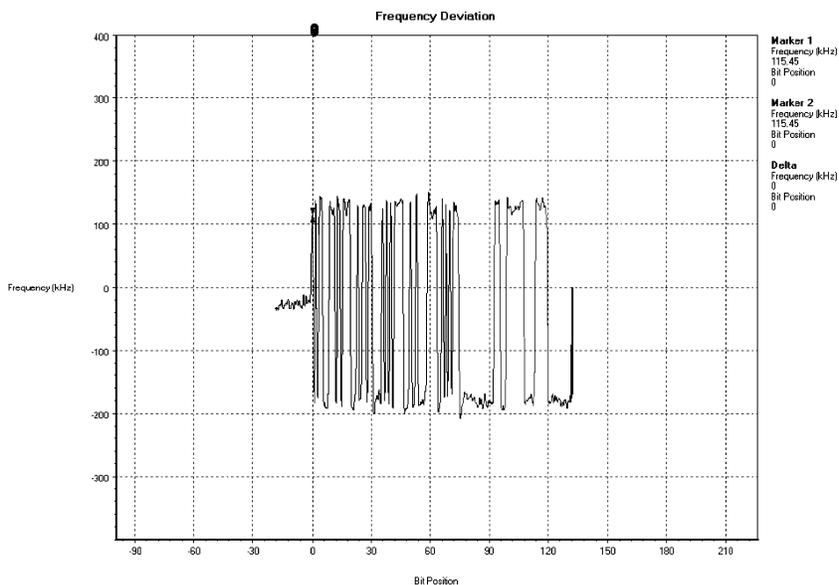
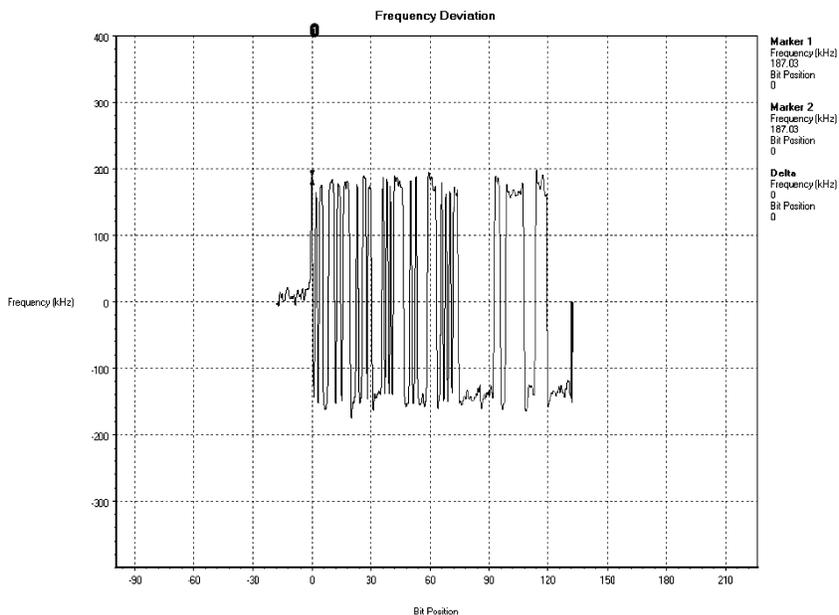

Figure 14. Frequency Offset with 12 pF//12 pF Capacitors
Figure 15. Frequency Offset with 10 pF//10 pF Capacitors
- The LMX9830 has been tested with the TEW TAS-4025A crystal, reference Table 18 for specification. Since the internal capacitance of the crystal circuit is 8 pF and the load capacitance is 16 pF, 12 pF is a good starting point for both Ct1 and Ct2. The 2480 MHz RF frequency offset is then tested. Figure 14 shows the RF frequency offset test results.
- Figure 14 shows the results are -20 kHz off the center frequency, which is -1 ppm. The pullability of the crystal is 2 ppm/pF, so the load capacitance must be decreased by about 1.0 pF. By changing Ct1 or Ct2 to 10 pF, the total load capacitance is decreased by 1.0 pF. Figure 15 shows the frequency offset test results. The frequency offset is now zero with Ct1 = 10 pF, Ct2 = 10 pF.